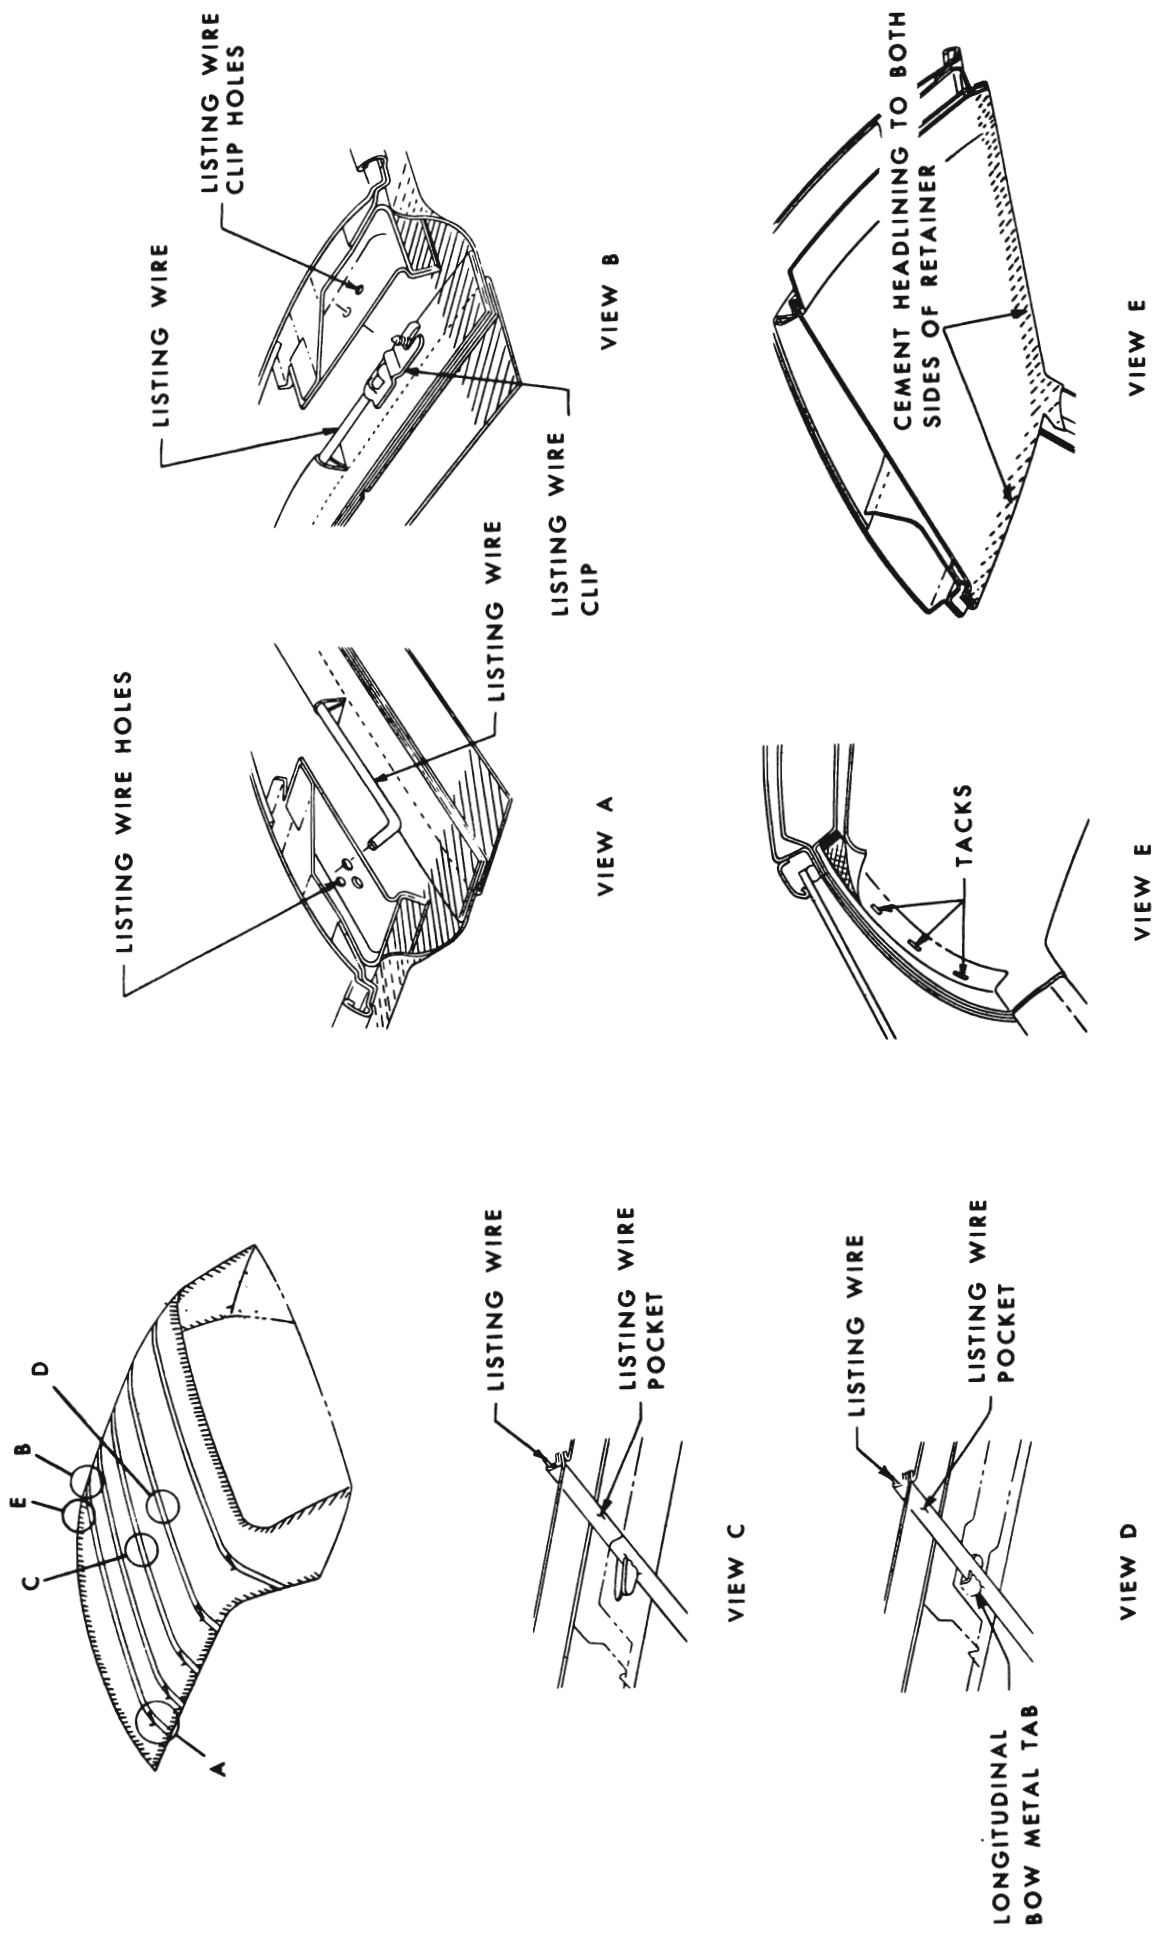
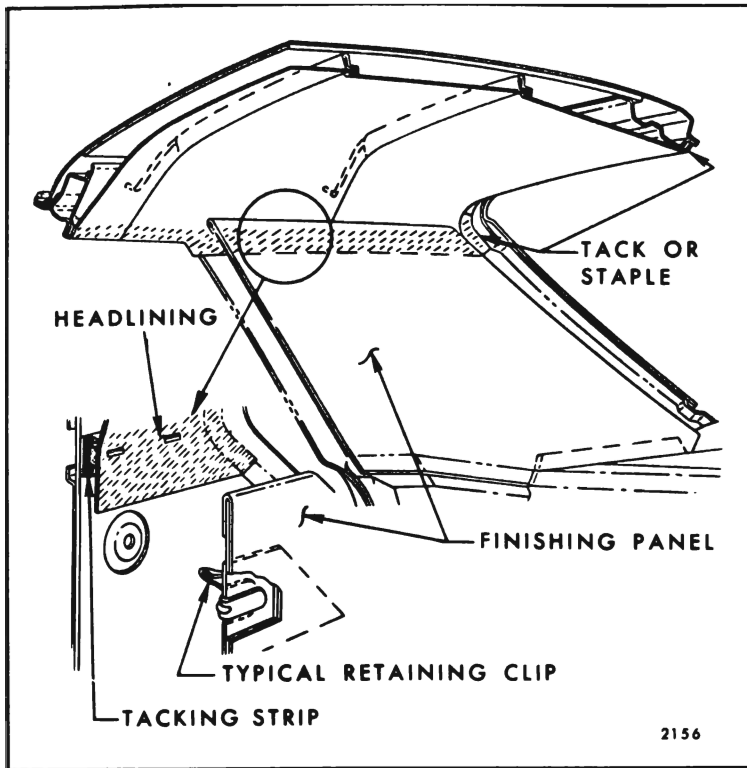
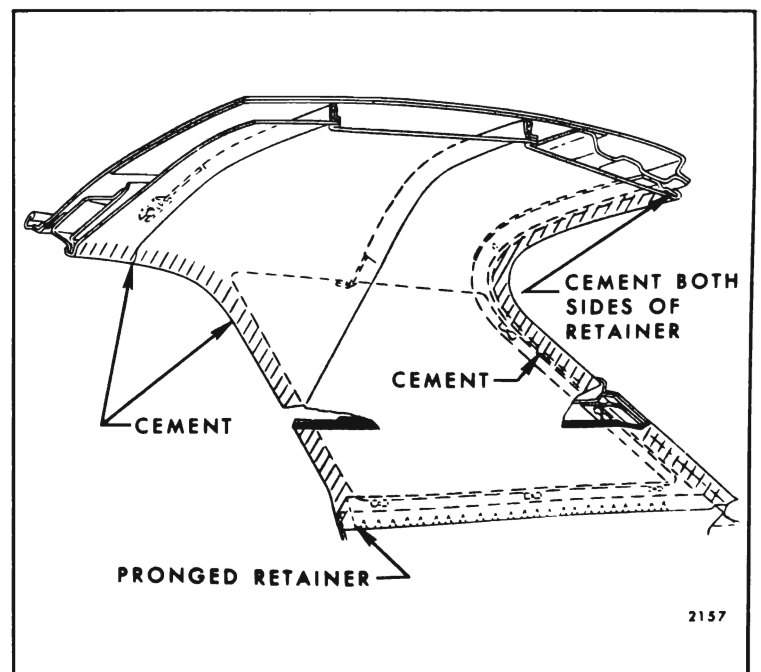

Fig. 4-1—Vinyl and Cloth Headlining Installation
Fig. 4-2—Upper Quarter Trim Installation
Fig. 4-5—Headlining Installation at Roof Extension
Depending upon the body type and style, the listing wires are attached to the side roof rails by either inserting wires directly into holes in side rail or into a clip which is screwed into the side rail. (See View "A and B" in Fig. 4-1.)
On all styles except Corvair equipped with a vinyl coated headlining, the listing wires are further attached to the roof panel by tabs on the front to rear longitudinal roof bow. (See View "D" in Fig. 4-1.)
Where garnish moldings are utilized the headlining is tacked or stapled in addition to being cemented at the windshield and back window or back body opening (View "E", Fig. 2155 and Fig. 4-2).
trim stick in the roof extension area (See Fig. 4-2). The upper quarter trim is retained by clips (See Fig. 4-2). On "E" Body Styles the upper quarter trim is further retained by cementing the forward edge to the side roof rail. On styles where the headlining covers the entire roof extension area, the headlining is retained along the rear compartment shelf by a pronged retainer (See Fig. 4-5).
inner rails and supporting tabs on longitudinal (front to rear) bow on styles so equipped (View "D" in Fig. 4-1). In like manner, working from rear of body, disengage listing wires from side roof rails and supporting tabs on longitudinal bow. Exercise care to keep headlining material clean by gathering or folding headlining with listing wires on outside.
7. At No. 3 listing wire, bend down tab securing listing wire (View "C" in Fig. 4-1) and remove headlining assembly from body.
2. Apply approved trim cement to headlining attaching surface at windshield, side roof rail and back window or back body opening. On styles that utilize pinchweld finishing lace be certain cement is applied to both sides of retainer at windshield and back window or back body opening. (View "E", Fig. 4-1 and Fig. 4-5)
3. Lift headlining assembly into body and install No. 3 listing wire and listing wire pocket over metal tab at roof bow (View "C", Fig. 4-1). Bend up tab to secure listing wire to bow. Make certain headlining is centered in body.
cloth headlining) slit listing wire pockets at each tab location on longitudinal bow (approximately 1-1/2" in length). Working rearward from No. 3 listing wire, install listing wires in side roof rails and over tabs on longitudinal bow. In like manner, working forward, install No. 2 and No. 1 listing wires. (View "D", Fig. 4-1)
**NOTE:** Listing wires may be adjusted up or down by utilizing appropriate holes in side roof rails. Listing wires should rest tight against roof panel after installation. (Views "A" and "B" in Fig. 4-1)